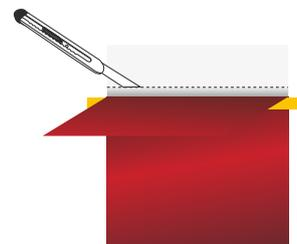

Figure03
- › Retirer 10 cm de liner. (FIG. 03)